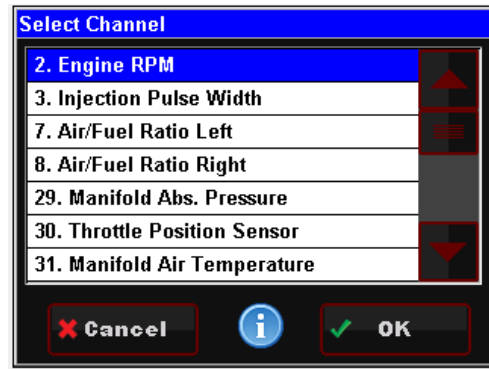

Figure 9 – List
**List:** Use the scroll bar on the right hand side of the screen to view all list entries. Touch the desired list item and click ‘OK’ to make a selection (**Figure 9**).